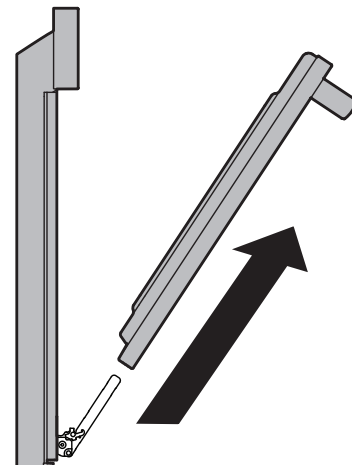

Figure 26: Remove door
4. Pull the bottom of the door toward you while rotating the top of the door toward the appliance to completely disengage the hinge levers (Figure 26).
1. Firmly grasp both sides of oven door along the door sides. Do not use the oven door handle (Figure 26).